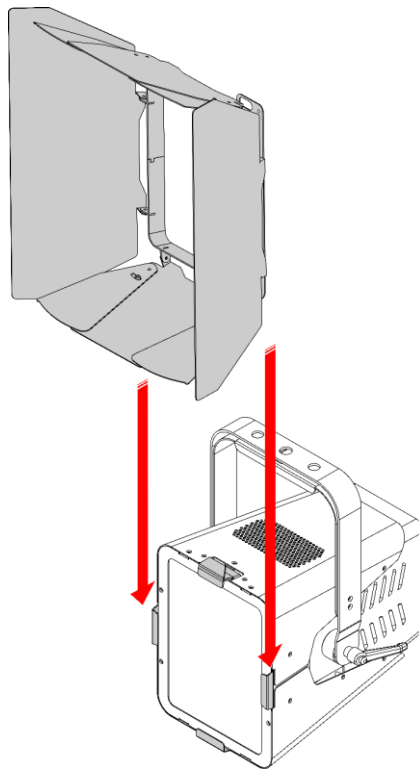

Fig. 09
- 02) Insert the barndoor into the **color frame holders (04)** (see Fig. 09).